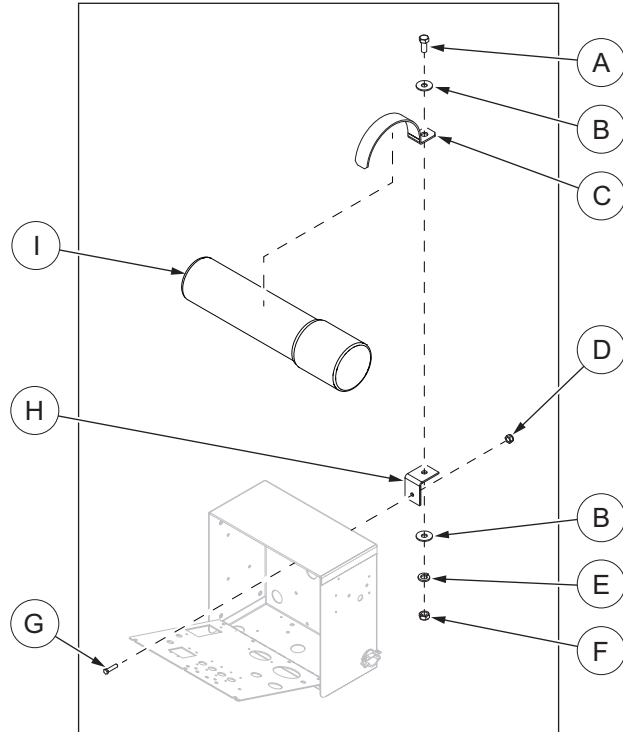

Figure 21 - Manual Holder Components
4. See Figure 21. Attach manual holder to control box, as shown.